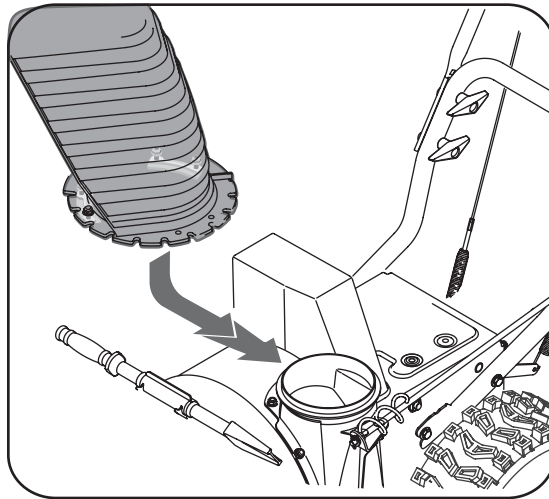

Figure 3-5
- Slide chute assembly over chute opening, making sure the flange keepers are beneath lip of chute adapter. The notches should engage with the spiral end of the chute crank. See Figure 3-5.